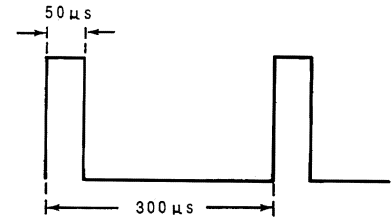

Figure 6-77
2. Refer to Figure 6-77. The waveform has a duty cycle of: